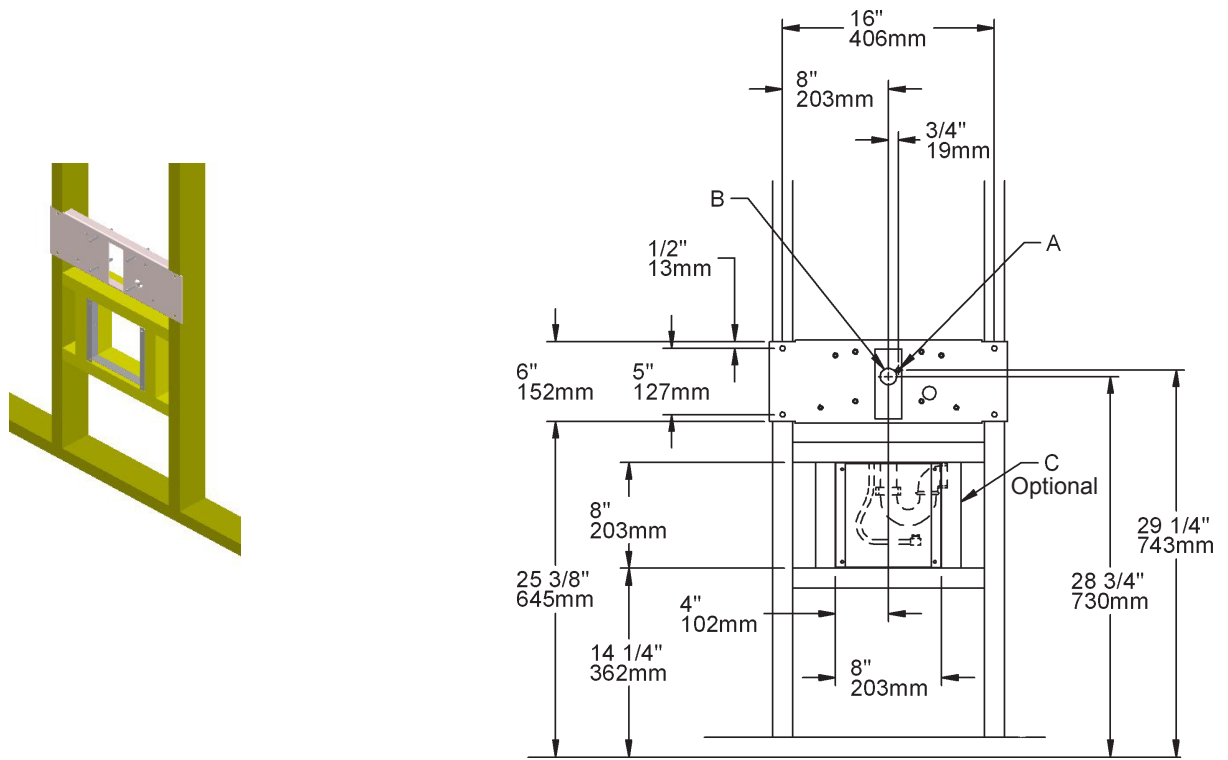

Figure 1 - Rough-in for EDFPB114C W/MP86 Mounting Plate
- 1. Wall** should already be framed for the fountain using the positioning dimensions shown in Figure 1. Shown dimensions pertain to installation location (framing must support up to 300 lbs. weight). These dimensions are required for compliance with ANSI Standard A117.0.
- 2. Install** rough-in plumbing as shown in Figure 1. Run supply water inlet line through the back panel. Install a service stop (not provided). Turn on supply water and flush thoroughly.